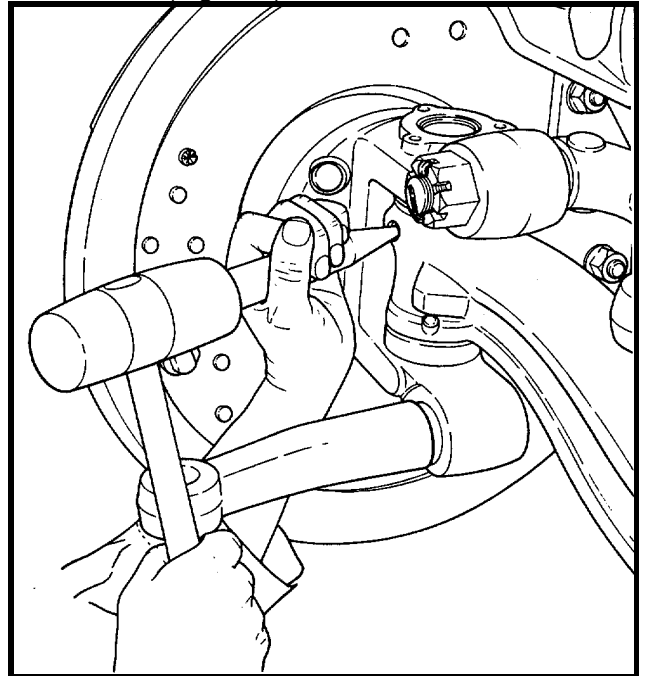

Figure 4
1. Plain draw keys should be driven out from the small end ("D" shaped) using a steel drift and a brass hammer (Figure 4).